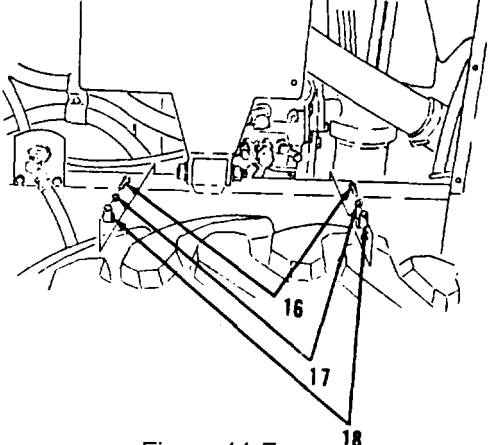

Figure 11-7.
- 7. Connect hose assembly (35) to tee (22).
- 8. Install connector (21) and hose assembly (20) to tee (27).
- 9. Connect air compressor hose assembly (19) to tee (22).
- 10. Install two clips (18), washers (17) and bolts (16, Figure 11-7) on left side of engine compartment.